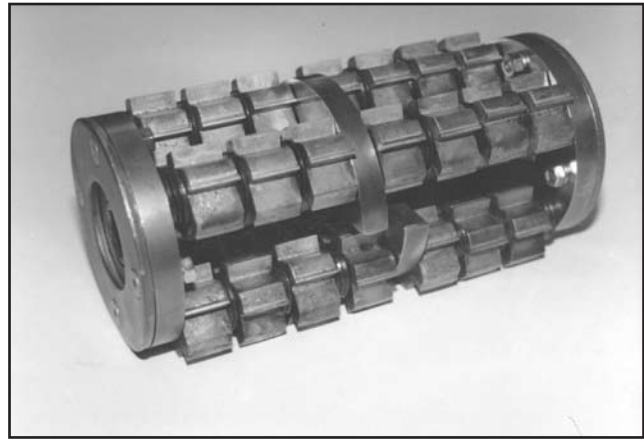

FIGURE 25
6) Beam and pentagonal flail are bi-directional in design and can be operated in both forward and reverse directions. Milling flails are one directional in design. This limitation requires the operator to install a loaded drum on the driveshaft with the tungsten carbide inserts facing the direction of rotation. FIGURE 25. Remove work surface material only by pulling the Surface Planer towards the operator after the drum has been lowered to the desired cutting depth. Never push the Surface Planer forward when the milling flails are in contact with the work surface material.